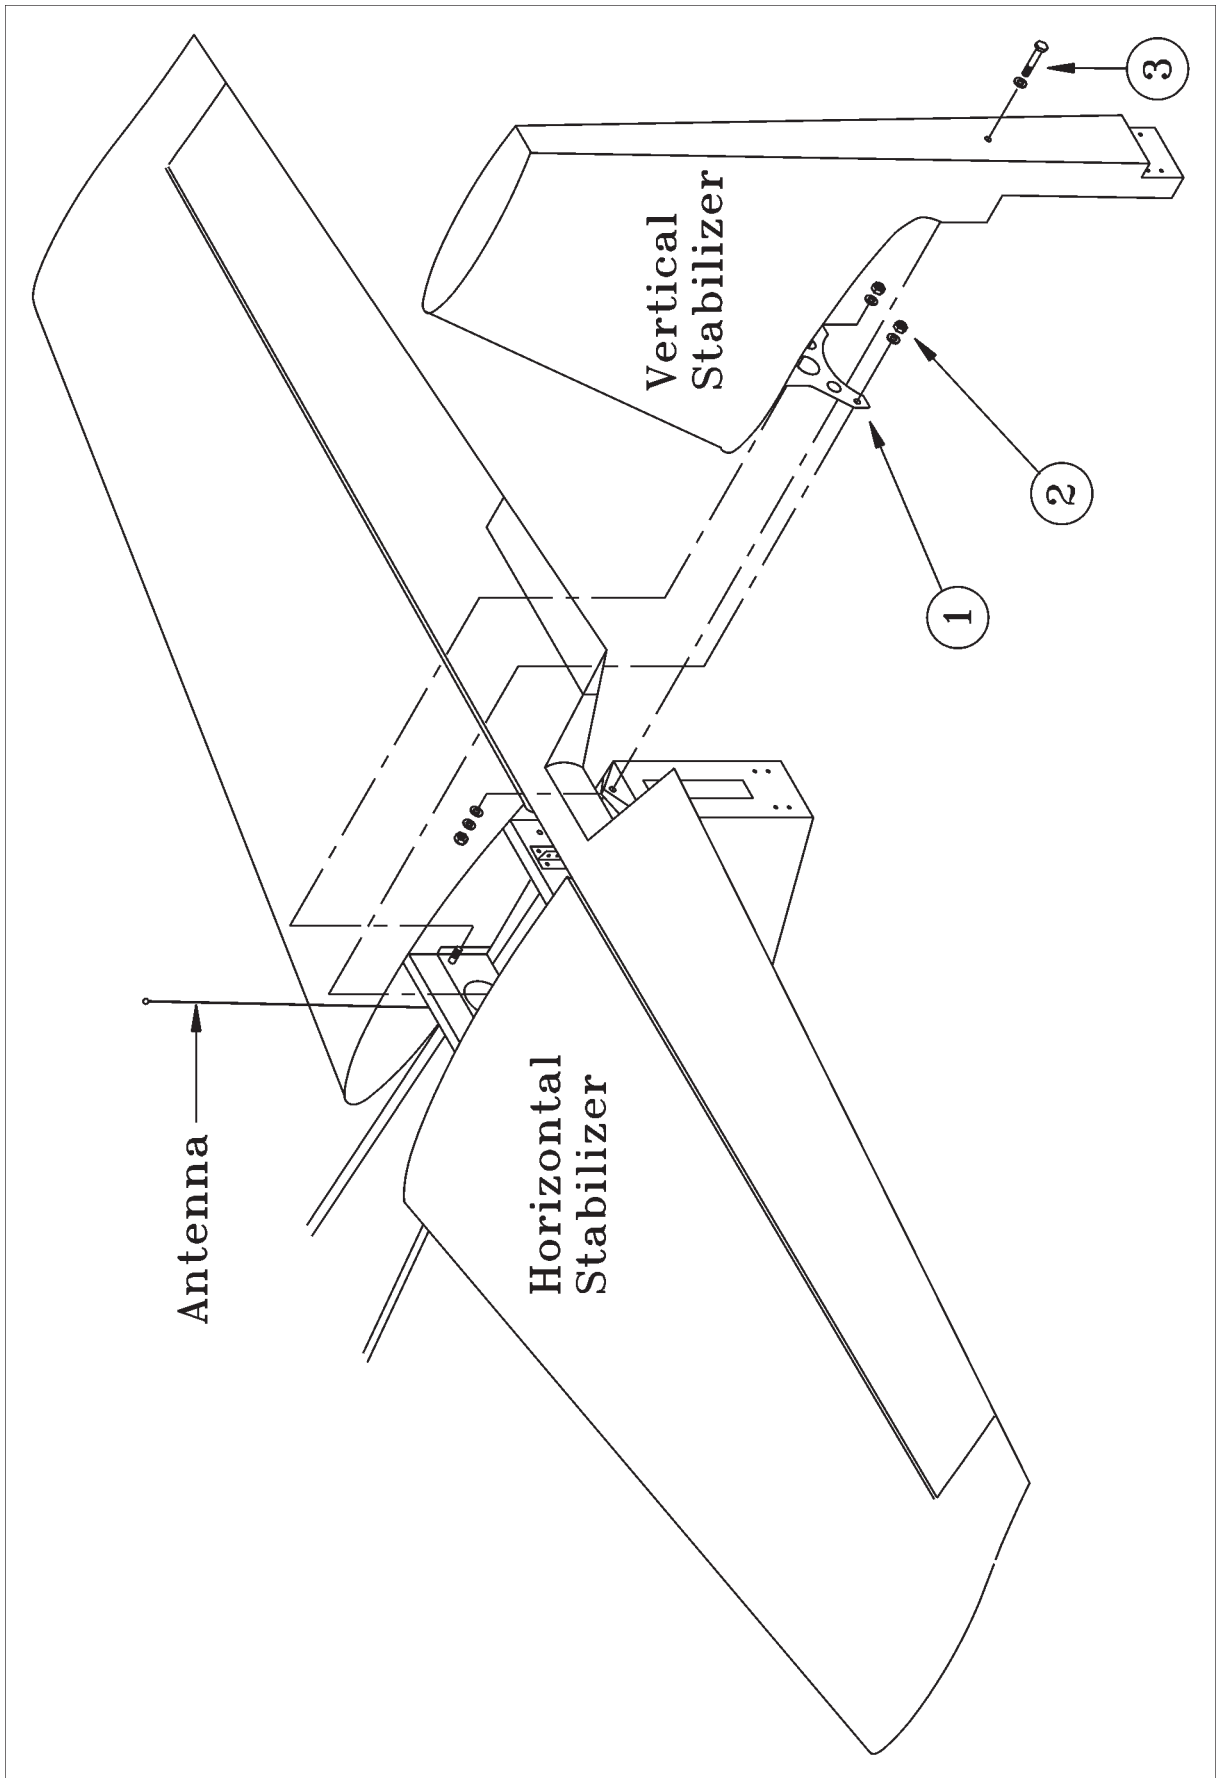

Figure 5
- 4 Remove the two stop nuts (2, figure 5) and washers of the front main bolts.
- 5 Remove the rear main bolt (3) with the washers and the stop nut.
- 2 Slide the auxiliary spar attachment sheet (1, figure 5) of the vertical stabilizer from the rear over the preinstalled horizontal stabilizer front spar bolts and install the washers and stop nuts (2).
- 3 Insert the bolt (3) to the main spar from rear to front. Use stop nuts and washers.